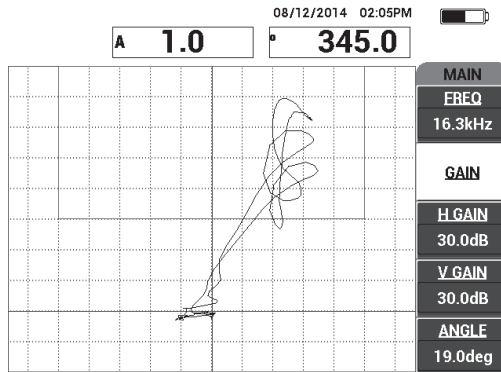

Figure 6-68 The second scan over the defect(s)
4. Place the probe tip on a defect-free section, press the CAL NULL key (CAL \oplus) again, and then slowly scan over the defect(s); make sure that the detection is satisfactory, and if necessary, adjust the GAIN, H GAIN, or V GAIN (see Figure 6-68 on page 180).